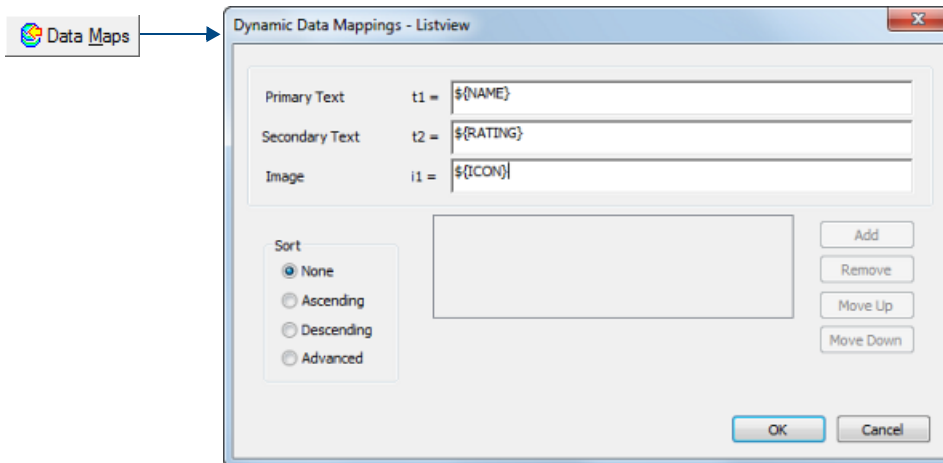

FIG. 145 Dynamic Data Mappings - Listview dialog (with example data indicated)
- Click the **Data Maps** button to access the *Dynamic Data Mappings - Listview Buttons* dialog (FIG. 145):